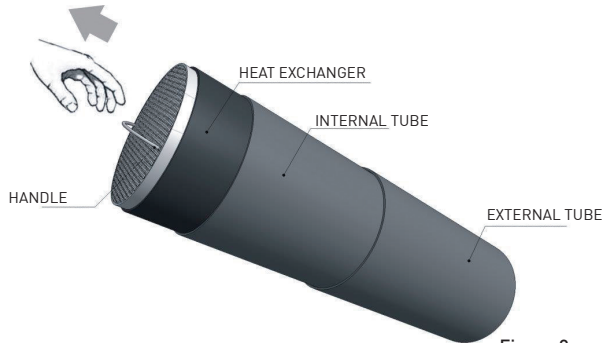

Figure 3
- Using the handle, pull out the heat exchanger as shown in Figure 3.